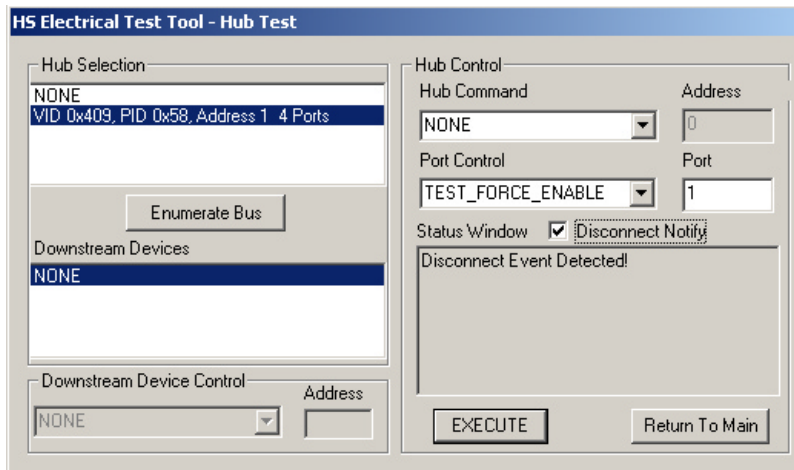

Figure 21. Disconnect Event Detected
- c. Verify that the Status Window now displays the Disconnect Event Detected (Figure 21)